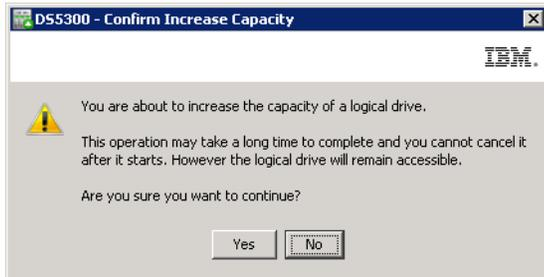

Figure 4-30 Confirm increase capacity
3. Before to proceed with the new space allocation, the system will confirm the task, as shown in Figure 4-30.